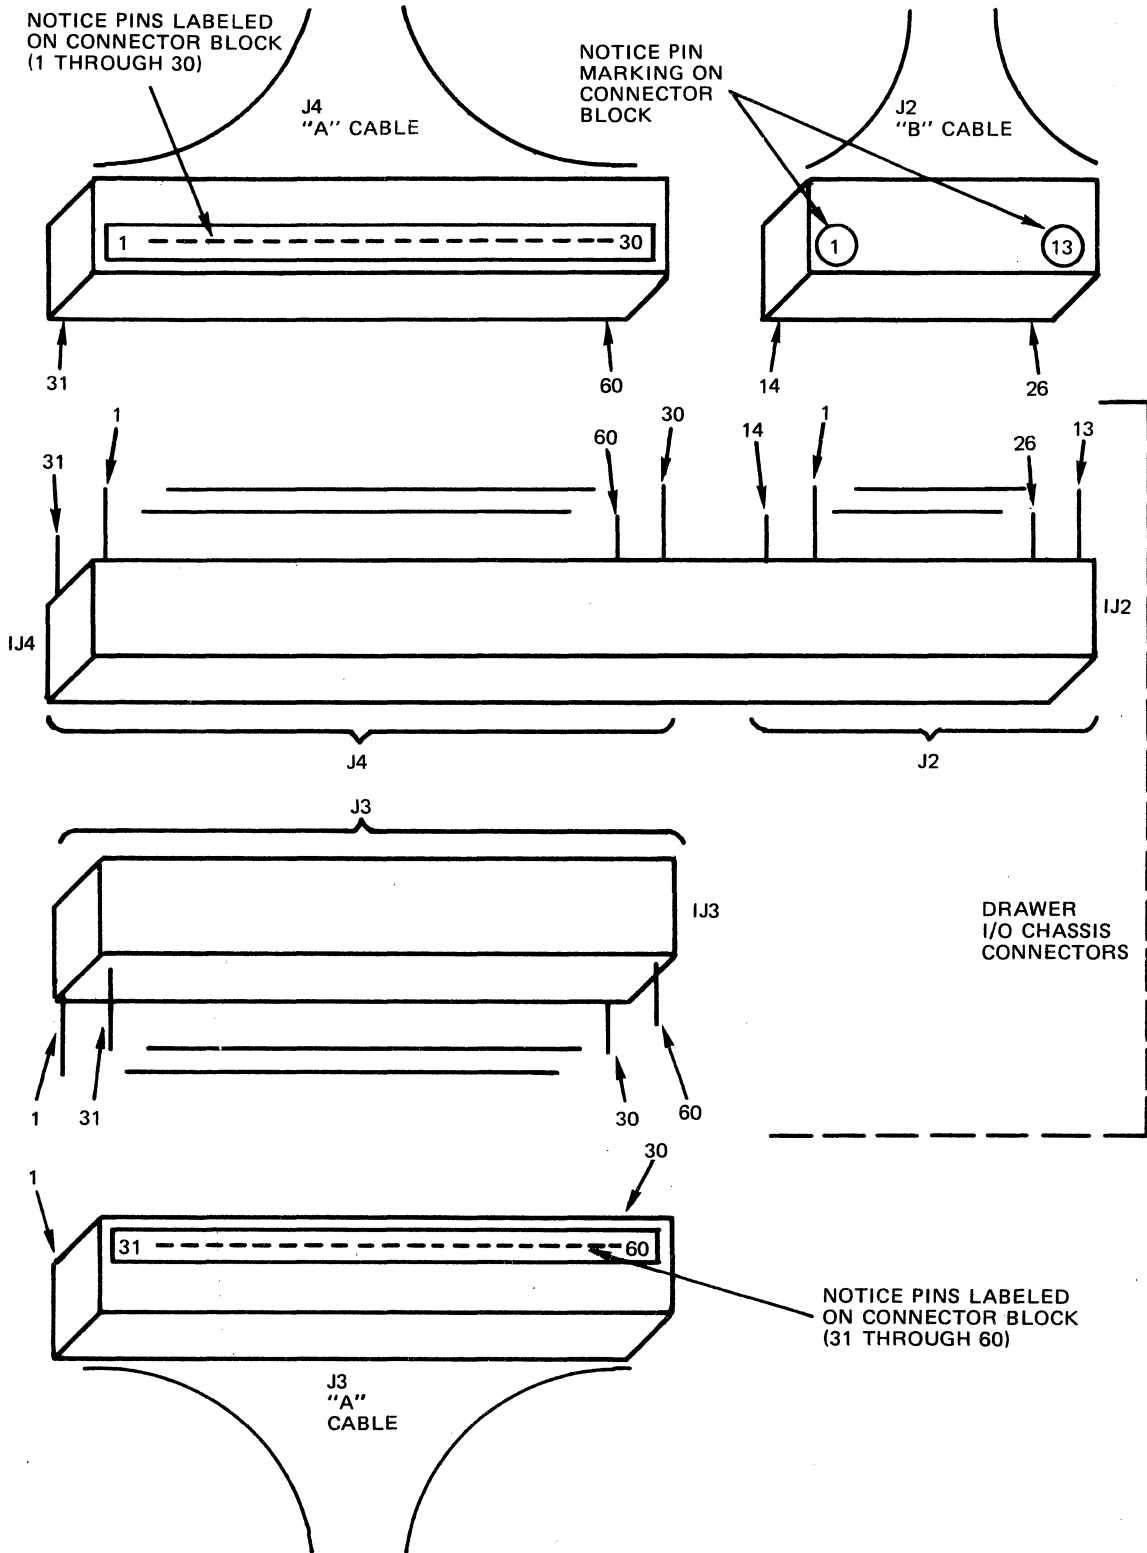

Figure 2-14 I/O Flat Cable to Drawer Pin Orientation
3. Locate J3 I/O flat cable and connect this cable's connector to J3 connector pins on drawer unit (see Figure 2-14) with pin 31 to left and pin 60 to right. Note that pins 31 through 60 are labeled on connector block on J3 I/O flat cable (see Figure 2-14).
5. Locate J4 I/O flat cable and connect this cable's connector to J4 connector pins on drawer unit (see Figure 2-14) with pin 1 to left and pin 30 to right. Note that pins 1 through 30 are marked on connector block on J4 I/O flat cable.
6. Locate J2 I/O flat cable and connect this cable's connector to J2 connector pins on drawer unit (see Figure 2-14) with pin 1 to left and pin 13 to right (pin 14 to left and pin 26 to right). Note that these pin numbers are marked on connector block.